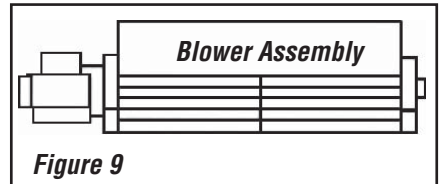

Figure 9
8. Lift blower up and pull it out from back opening of firebox (see Figure 9).